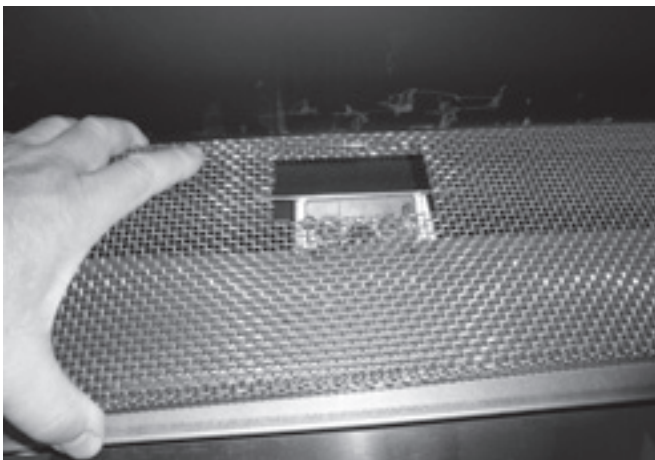

Figure 10
9. Lift the burner screen off of the burner and set aside. **See Figure 10.**